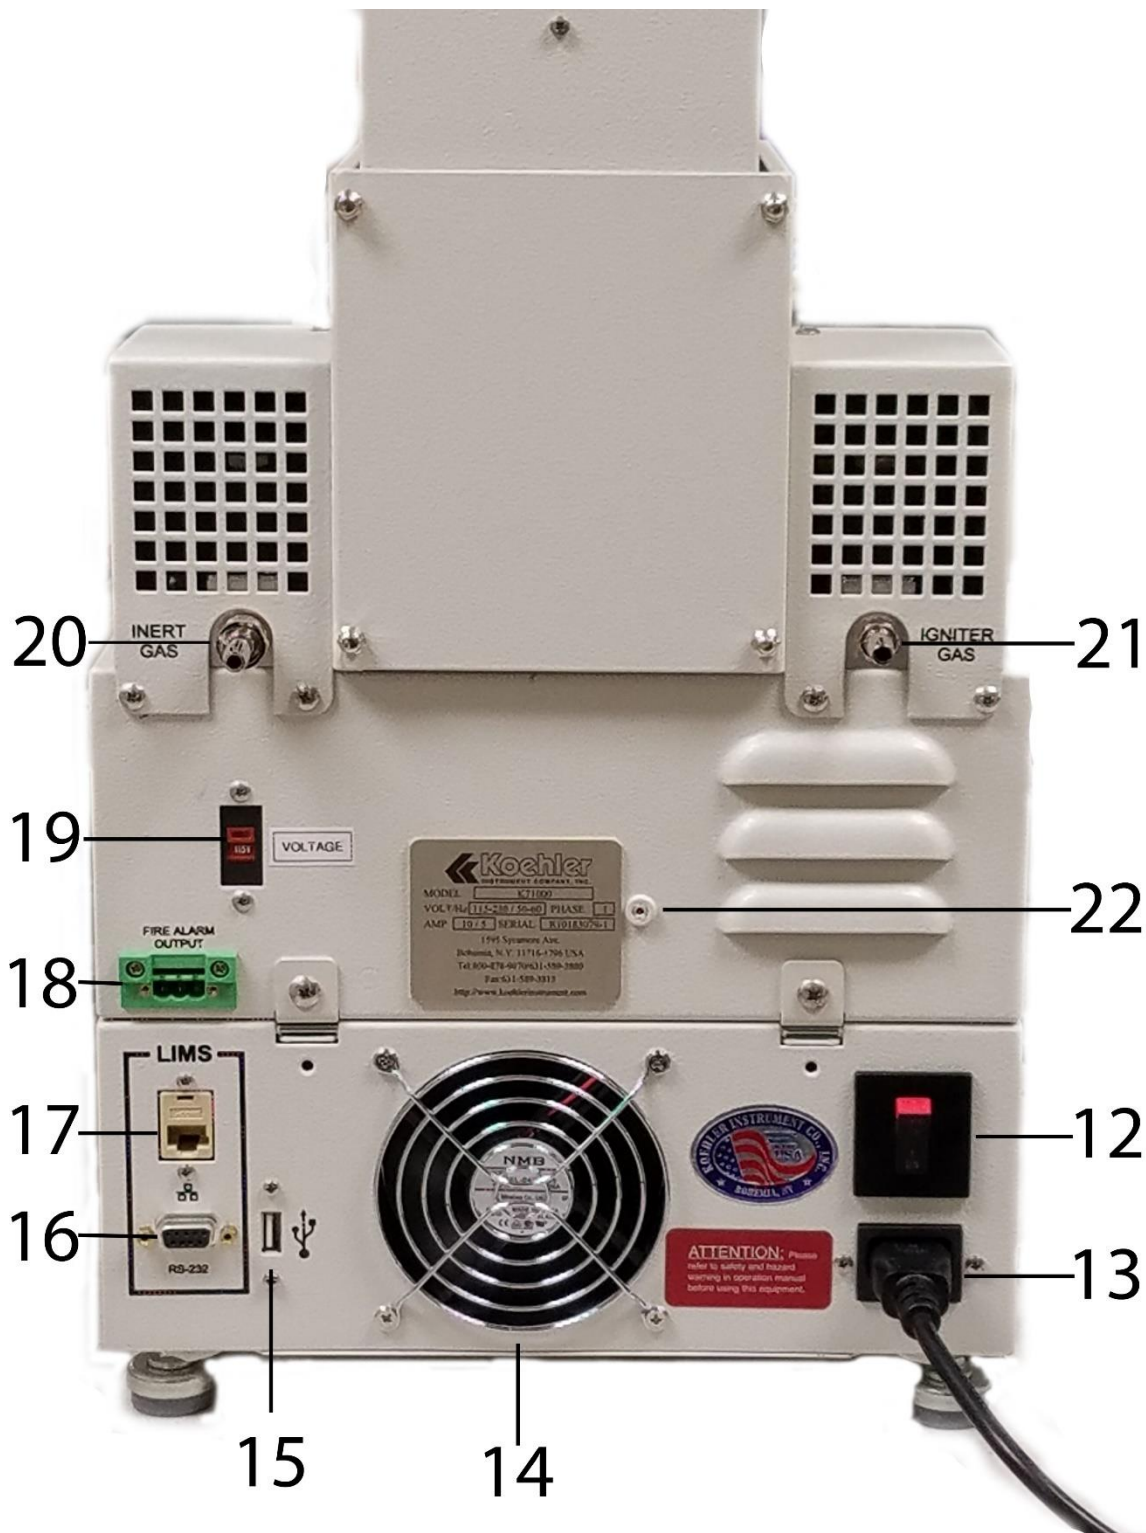

Figure 2. Instrument Descriptions (Back)
- 13. **AC Outlet:** The analyzer has been designed with an integrated C13 line socket in order to easily change plug types (115V or 230V). Internal voltage can be switch using the Voltage switch (Figure 2, Item 19).